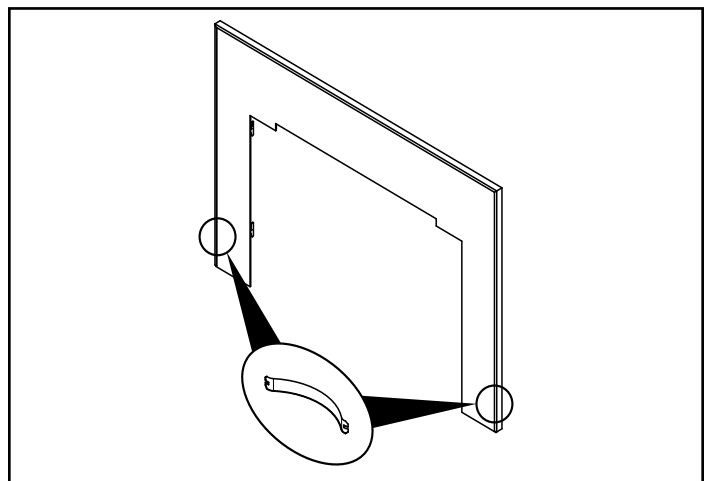

Figure 5.10
5. Install two steel springs on each side of the flat surround towards the bottom and the assembled trim kit (**Figure 5.10**).